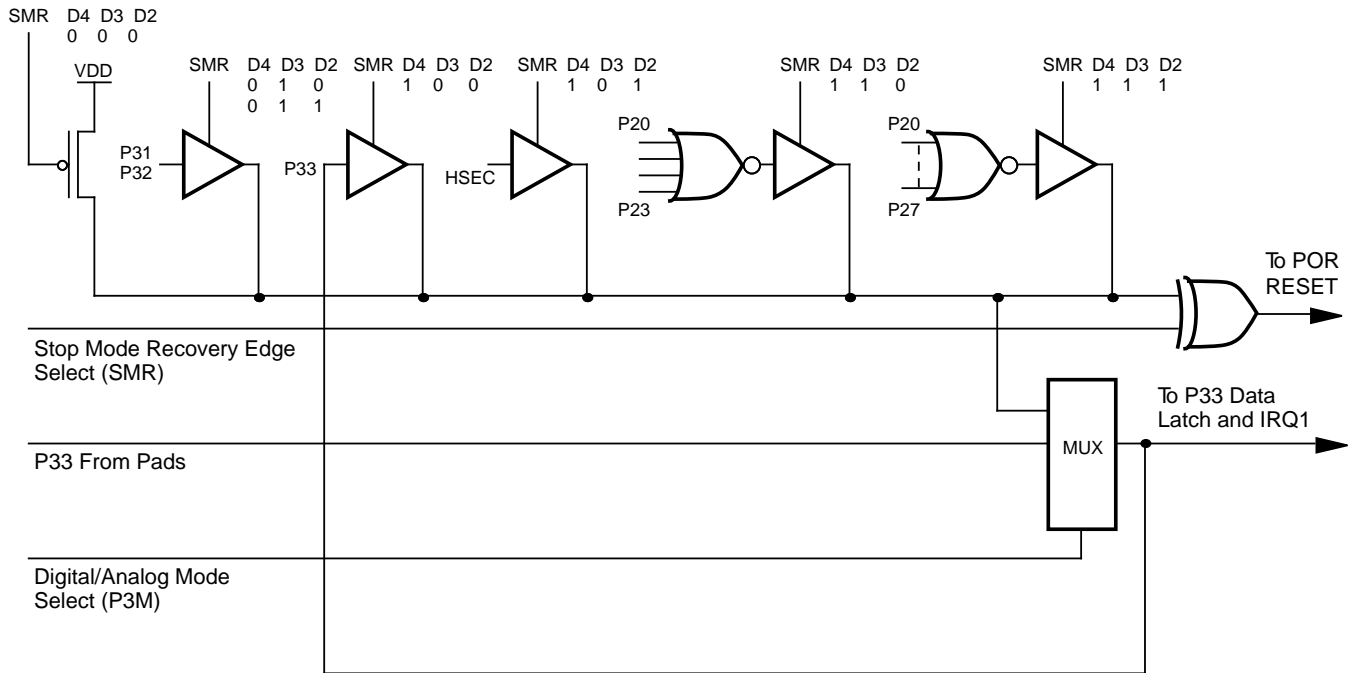

Figure 27. Stop-Mode Recovery Source
**Stop-Mode Recovery Source (D4-D2).** These three bits of the SMR specify the wake-up source of the STOP recovery (Figure 27 and Table 8).